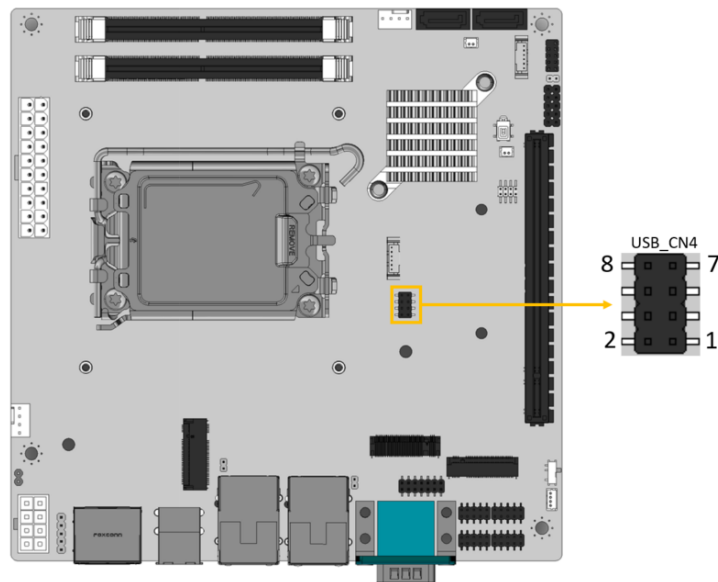

Figure 3-26: USB 2.0 Connector Locations
- CN Location:** See Figure 3-26